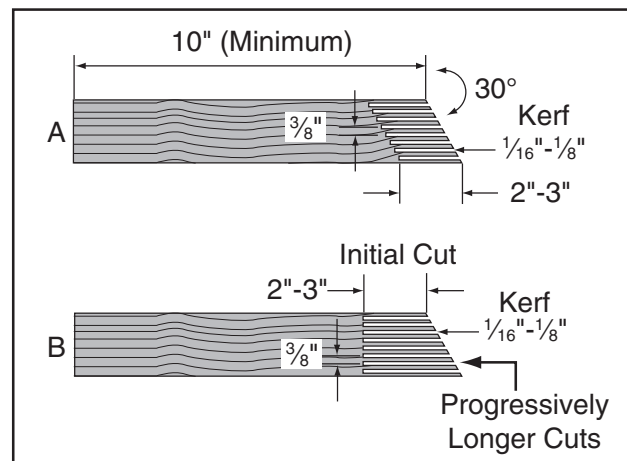

Figure 91. Patterns for featherboards (top view shown).
3. Make a series of end cuts with the grain $\frac{3}{8}$ "- $\frac{1}{4}$ " apart and 2"-3" long, as shown in **Figure 91 (A)**. Alternatively, start cuts at 2"-3" deep, then make them progressively deeper, as shown in **Figure 91 (B)**.